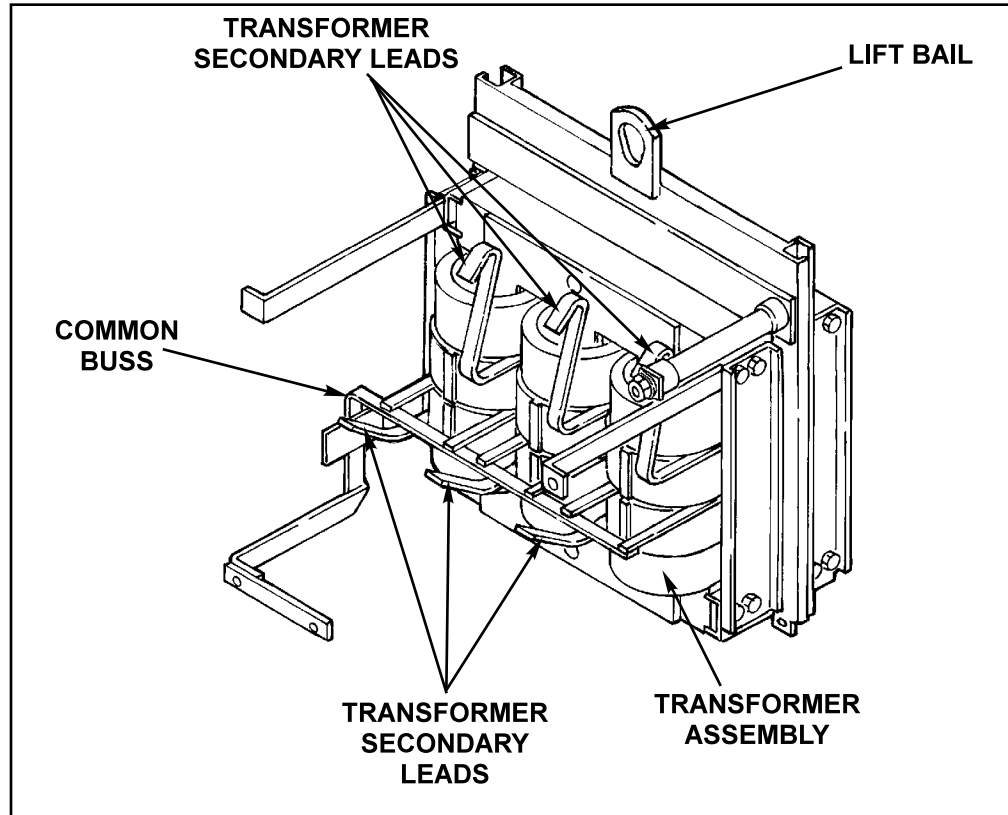

FIGURE F.4 - Main Secondary Lead Test Points
6. Test with an AC voltmeter for approximately 60 VAC from each of the six main transformer secondary leads to the common buss connected to the negative output terminal. See Figure F.4.